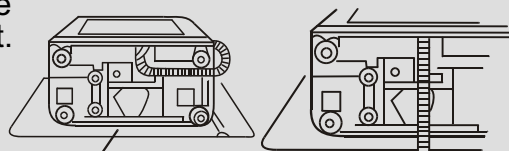

Figure 2
- Put soft items on the ground. Lean the machine down gently with the front surface facing the ground. Take off the drain hose from the cabinet. Take the hose out of the fixing groove. (See to Figure 2).